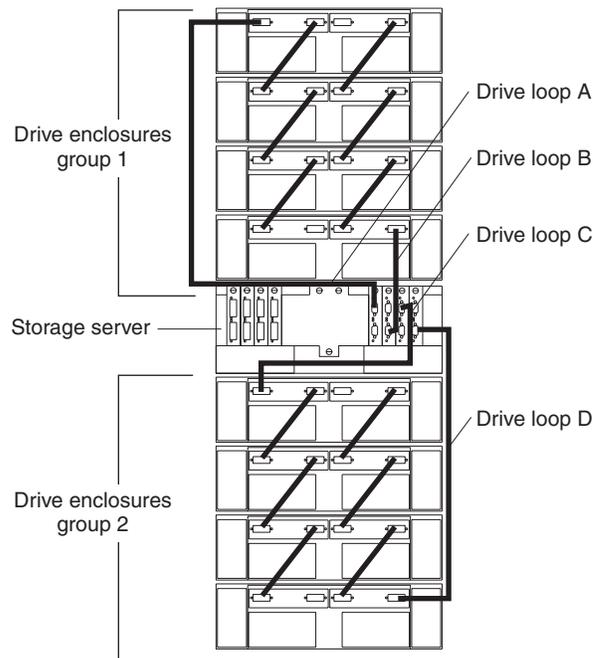

Figure 40. Redundant drive loop cabling overview
Figure 40 on page 41 shows a storage subsystem containing one storage server and two redundant drive loops with four drive enclosures each. Each drive enclosures group uses redundant drive loops to connect to the FAST900 Storage Server. Loop A and loop B make up one redundant pair of drive loops. Loop C and loop D make up a second redundant pair.
**Attention:** To prevent loss of drive enclosure redundancy, connect the drive enclosures as shown in Figure 40.